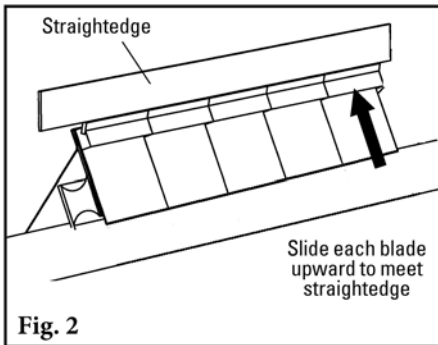

Fig. 2
- Choose the tensioner position.** The tensioner is shipped mounted in the push-up position. Depending upon the space constraints of the installation, the tensioner can be optionally mounted in a pull-up position. To do this, loosen the threaded rod lock nut, unscrew the threaded rod and remove adjusting bracket lock bolt. Then move the adjusting bracket and threaded rod to the top of the clamp blocks (Fig. 2) and tighten threaded rod lock nut.
2. **Align the blade tips.** Push tips together so there is no more than a .25mm to .38mm (.010" to .015") gap between them. Position a straightedge along the top surface of new blade tips. Pull upward on each blade to align with the bottom of the straightedge and tighten the nuts (Fig. 2).